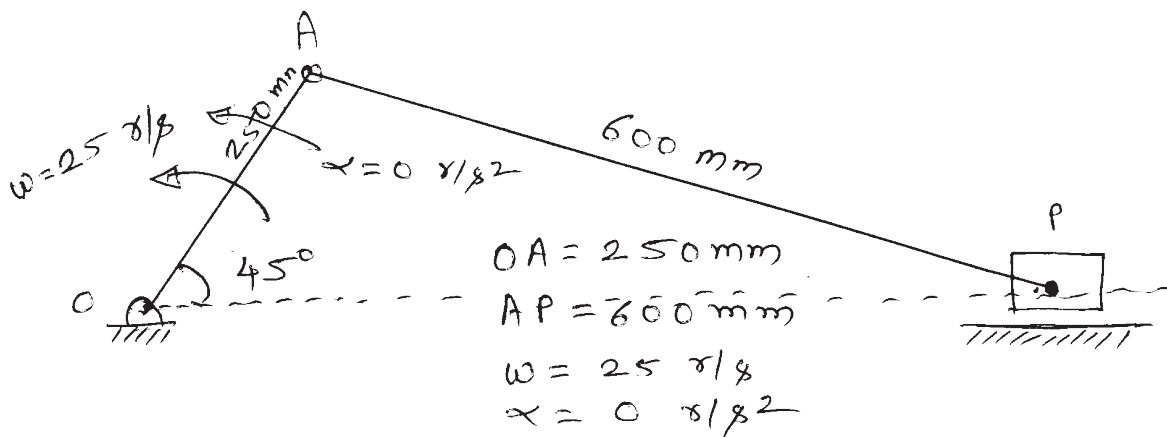

Fig. No. 3
- Find velocity and acceleration of piston P as shown in Figure No. 3.